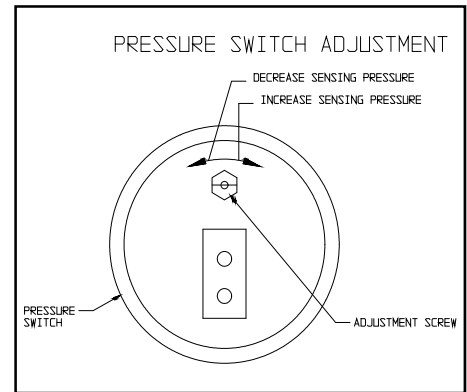

Figure 19
1. The pressure switch must be mounted in the vertical position to maintain maximum sensitivity and removed from any heat source. (See Figure 19)
Follow appliance manufacturer's instructions, light the appliance and after the appliance has operated a sufficient time to establish stable combustion, adjust pressure switch sensitivity by turning pressure switch adjustment screw "clockwise" (See Figure 19) until burner feed operation stops. Then turn the adjustment screw "counter-clockwise" until burner feed starts operating. Turn the adjustment screw an additional 1/4 to 3/4 of a turn "counter-clockwise" more to ensure adequate switch adjustment. See page 8.